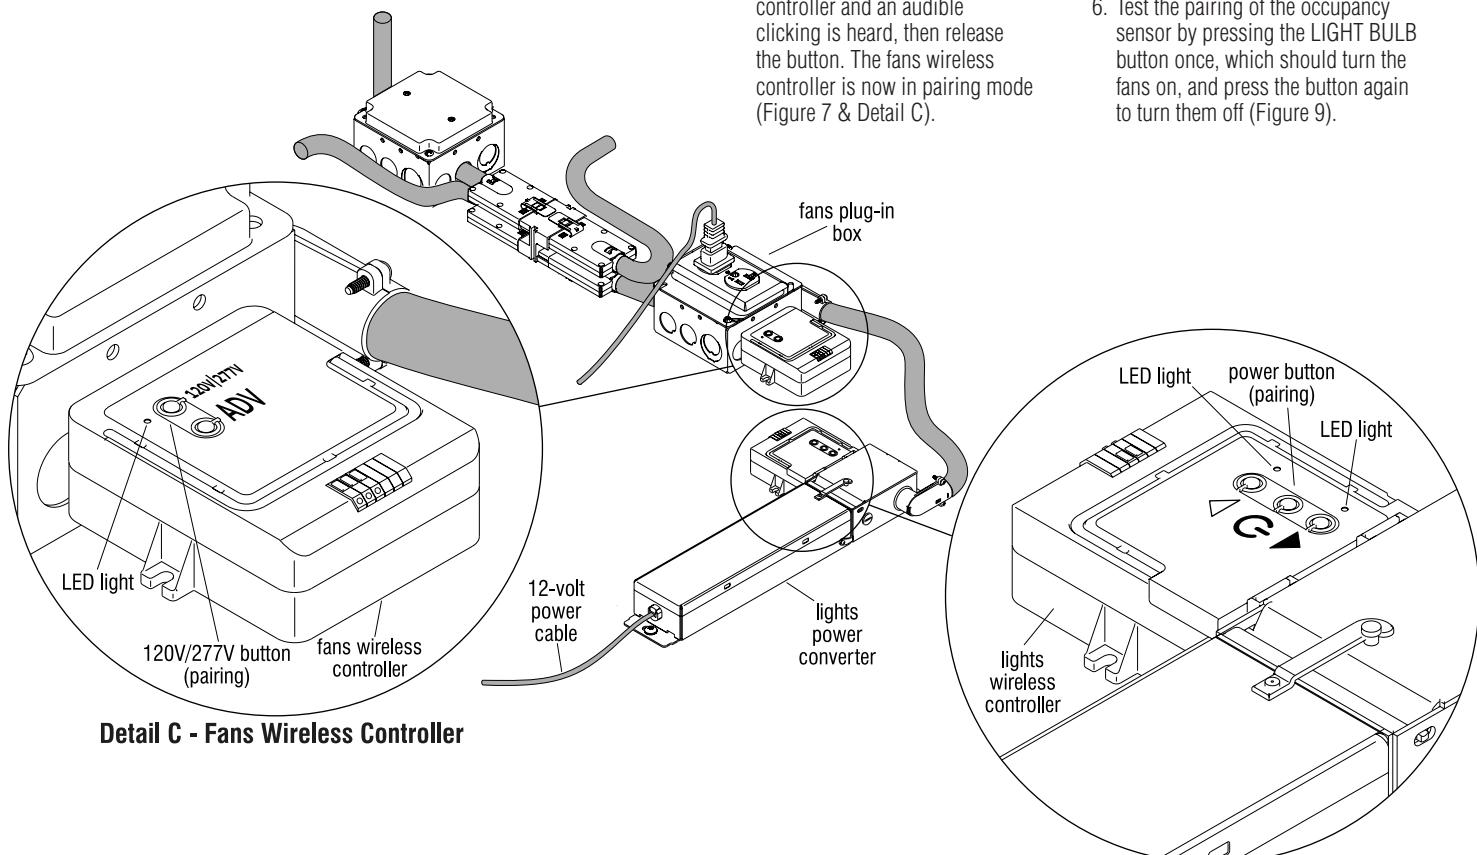

Figure 7 - Wireless Controllers
3. Then, above the ceiling at the fans wireless controller, press and hold the 120V/277V button for approximately six seconds until the LED light flashes on the controller and an audible clicking is heard, then release the button. The fans wireless controller is now in pairing mode (Figure 7 & Detail C).
4. Next with the occupancy sensor in hand, at the back press and hold the LIGHT BULB button for 8-10 seconds, until the screen flashes red rapidly. Continue holding the button down until the flashing stops, then release the button (Figures 7 & 9, Detail C).
5. Then, above the ceiling at the fans wireless controller, press and hold the 120V/277V button again, for six seconds until the LED light goes off and the clicking stops. The occupancy sensor is now paired to the fans only (Figure 7 & Detail C).
7. Above the ceiling, at the lights wireless controller, press and hold the middle power button for approximately six seconds until both LED lights flash, then release the button. The lights wireless controller is now in pairing mode (Page 88, Figure 7 & Detail D).
8. Next, with the occupancy sensor in hand, press and hold the LIGHTBULB button for 8-10 seconds, until the screen flashes red rapidly. Continue holding the button down until the flashing stops, then release the button (Figures 7 & 9, Detail C).
9. Once the occupancy sensor is paired to the lights controller, press and hold the middle power button on the controller until the LED lights turn off to exit pairing mode (Figure 7 & Detail D).